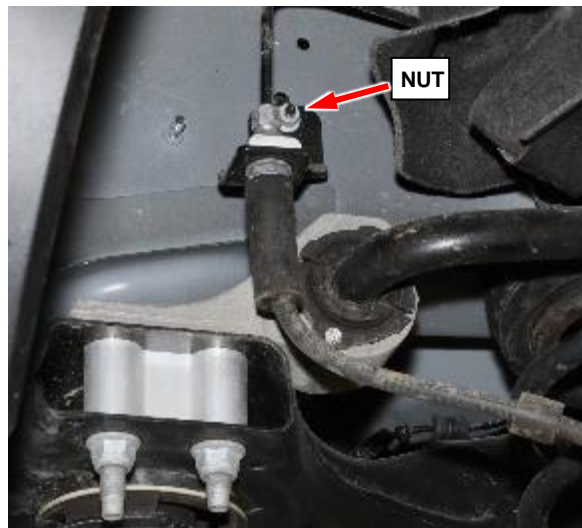

Figure 7 – Brake Pipe Bracket
- Remove the nut holding the brake pipe bracket to the body (Figure 7).
25. Install the nut holding the brake pipe bracket to the body tighten to 7 N·m (62 in. lbs.) (Figure 7).